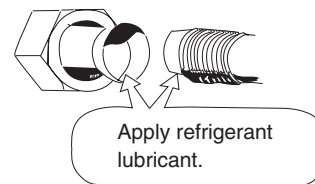

Fig. 2-25
- (1) Apply a sealing cap or water-proof tape to prevent dust or water from entering the tubes before they are used.
- (2) Be sure to apply refrigerant lubricant to the matching surfaces of the flare and union before connecting them together. This is effective for reducing gas leaks. (Fig. 2-25)